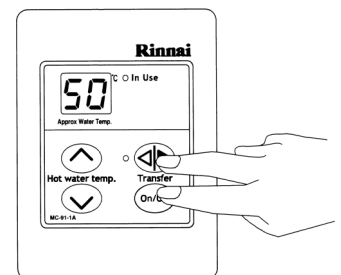

Fig. 1
STEP 1: On the Master controller only press and hold the **Transfer** and **ON/OFF** buttons simultaneously (see Fig. 1) until a “beep” is heard (approx. 5 seconds).